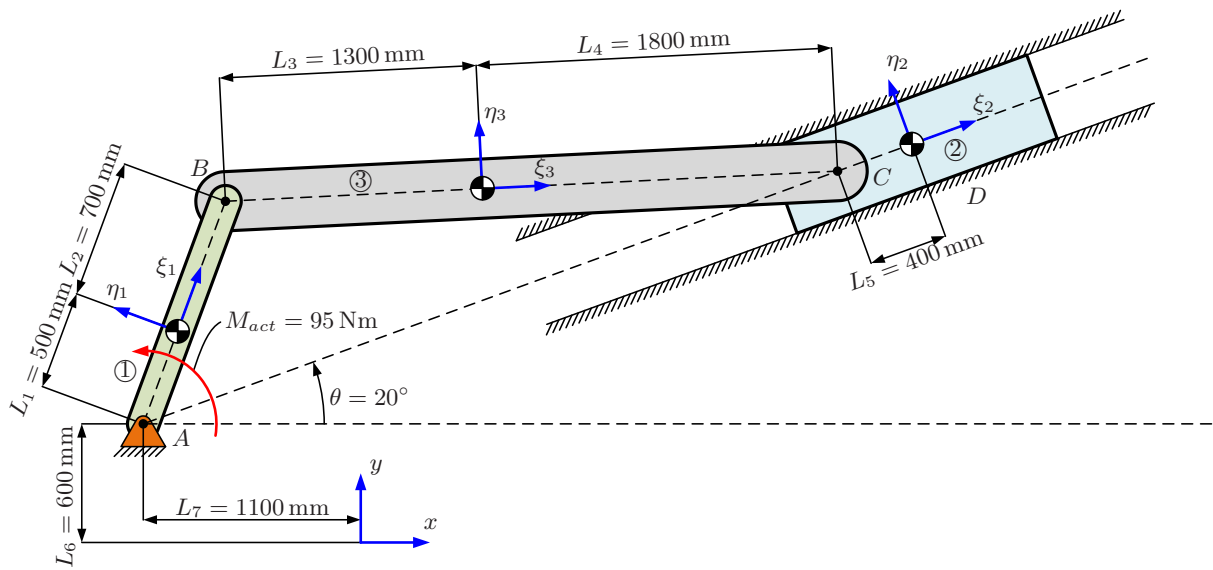

Figure 2: Slider crank system.
Set up the kinematic constraint equations for the mechanical system shown in figure 2. In this exercise body ③ is to be considered a mechanical body. Write the equations by hand and implement them in Matlab to carry out a forward dynamics analysis for the time  $t = 0 \text{ s}..20 \text{ s}$ . A constant moment  $M_{act} = 95 \text{ Nm}$  is applied to body ① as illustrated in figure 2. Viscous friction applies between body ② and ground with a friction coefficient  $c = 10 \frac{\text{Ns}}{\text{m}}$ . Gravity applies in the negative  $y$ -direction. The following mass properties are known:  $m_1 = 7 \text{ kg}$ ,  $J_{G1} = 1.4 \text{ kgm}^2$ ,  $m_2 = 15 \text{ kg}$ ,  $J_{G2} = 2.7 \text{ kgm}^2$ ,  $m_3 = 10 \text{ kg}$ ,  $J_{G3} = 8.5 \text{ kgm}^2$ . In the initial position the bodies are at rest with  $\phi_1 = \phi_2 = \phi_3 = \theta$ . Plot the results for position, velocity, acceleration, and reactions. Hint: the viscous friction applies along the dashed sliding line - not horizontally.